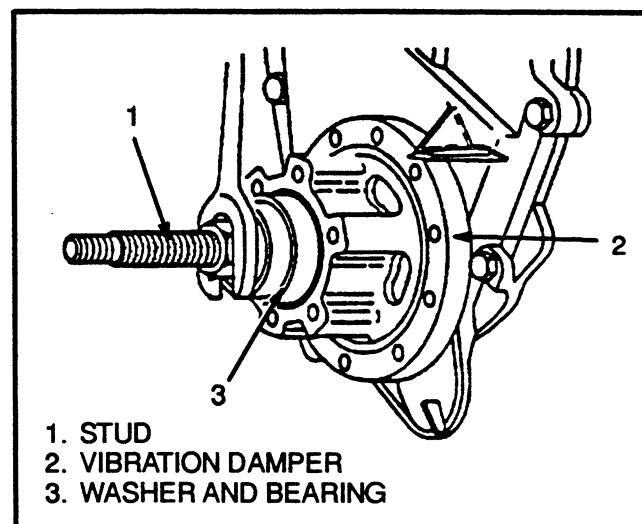

FIGURE 24. INSTALL THE VIBRATION DAMPER
3. Lubricate the lips of the seal with clean engine oil before the vibration dampener is installed. Use a special tool to pull the vibration dampener onto the crankshaft. Install the stud into the threaded hole in the crankshaft. See FIGURE 24. Remove the tool and install the washer and capscrew. Make sure the "F" on the washer faces out. Tighten the capscrew for the damper to 149 Nm (110 lbf ft).